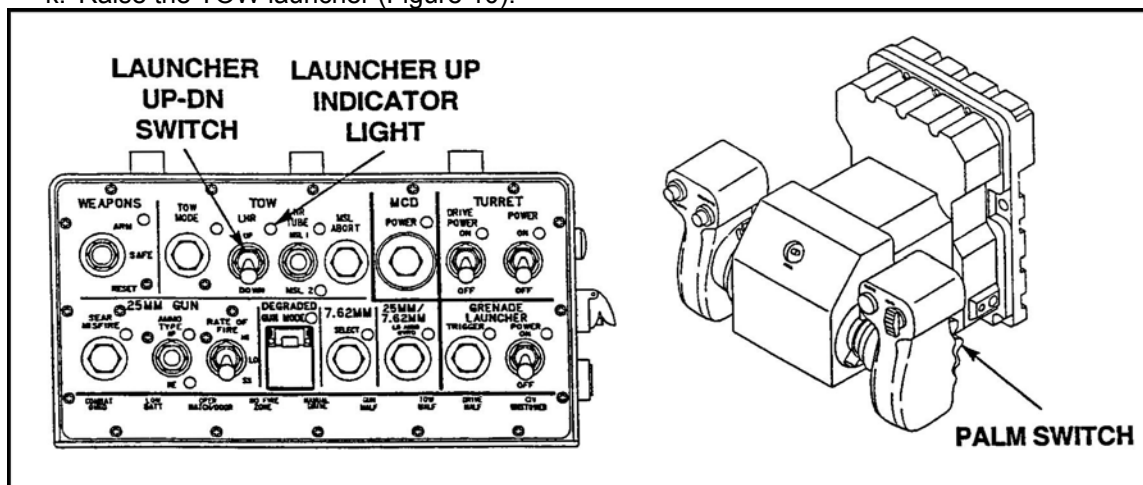

Figure 10. Launcher UP/DOWN switch.
- (4) Adjust sight picture, as necessary, using the LEVEL, GAIN, FOCUS, BRIGHTNESS, CONTRAST switches on the CSCP.
k. Raise the TOW launcher (Figure 10).